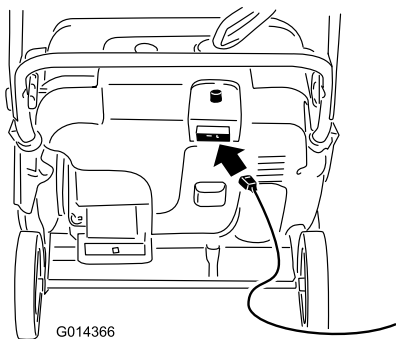
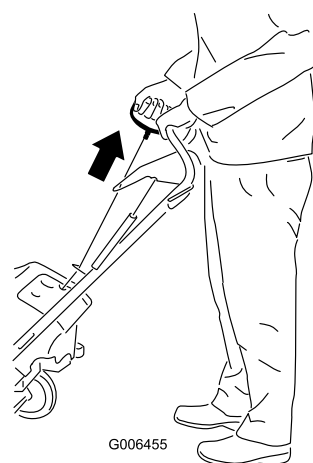

Figure 16
Figure 17
4. Connect an extension cord to a power source and the machine, and push the electric-start button (Figure 16), or pull the recoil start handle (Figure 17).